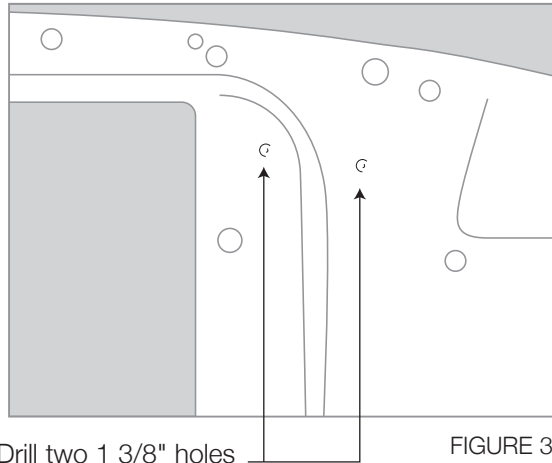

FIGURE 36
**STEP SEVEN:** Your OEM radiator support was designed to support a A/C condenser and conveniently has two small indentations on the drivers side for drilling the holes needed for this part of the installation (see figure 36, **after-market core supports may or may not have these indentations**). If your vehicle was already equipped with a OEM A/C, one of these holes may already be drilled. Locate these two small indentations and drill a 1 3/8" hole thru each (be sure to check for any obstructions before drilling, and remove any sharp burrs from the drilling before continuing, see figure 36). You'll notice that the hole closest to the upper condenser fitting is level with the connection fitting (the discharge hose to the compressor will go thru this hole). The other hole is to accommodate the liquid hose and the wiring harness plug for the high-pressure switch.